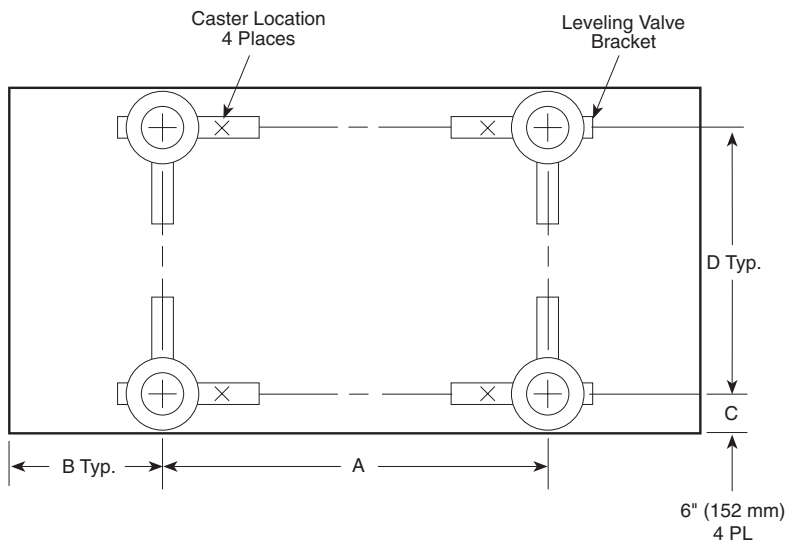

Figure 2.1 Isolator Position
- C. Refer to Figure 2.1 for correct placement of the isolators.
- D. Use the following procedure to install the casters. Casters must be installed on the attachment bars marked with an X in Figure 2.1.
- H. Ensure that the isolator spacing is as described in Figure 2.1.
The following procedure is for installing the TBC Tie-Bar Casters to an existing Table System. This procedure assumes that the Table System is assembled, with the Tie-Bars and table top in place. Casters are installed in the attachment bars marked with an X in Figure 2.1.